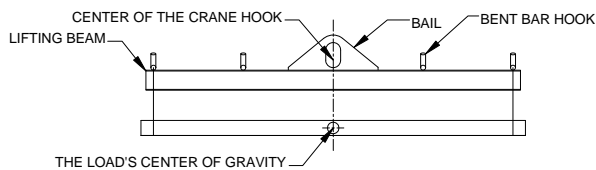

Figure 1
2. Use **ONLY** symmetrical attachment loading! (See Figure 1 and 3, slings are attached to two (2) bent bar hooks that are equal distance from the center of the bail.)
6. See Figure 1 & 3, the Lifting Beam is level/horizontal, proper lifting position.